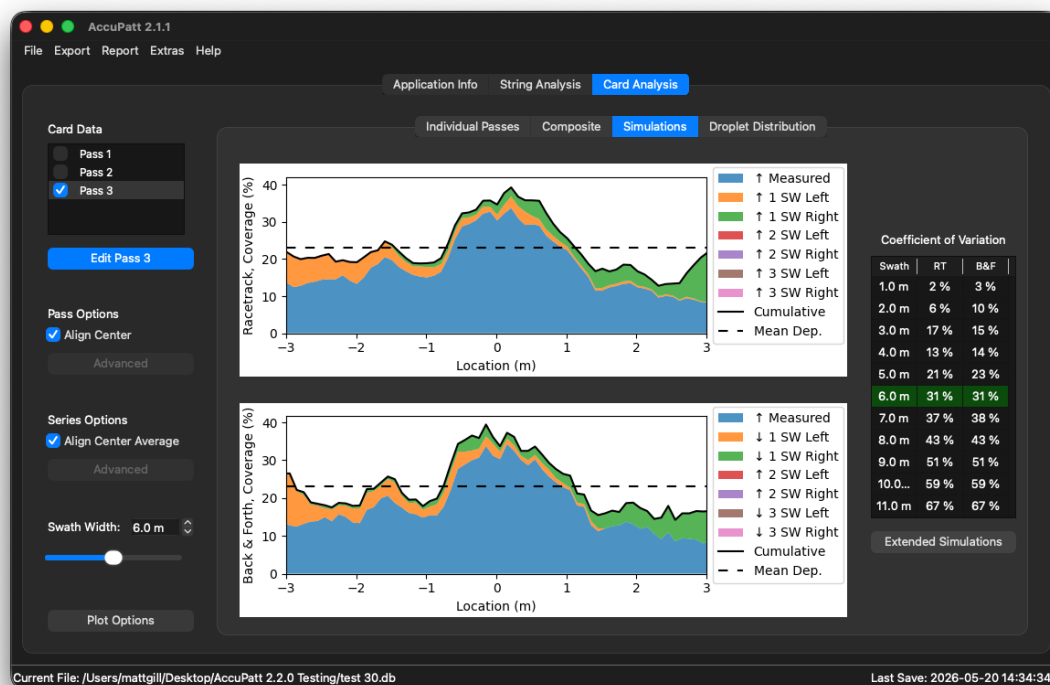

Figure 31: Spray-Card Analysis - Simulations
The **Simulations** sub-tab contains two plots (Figure 31). Both plots simulate additively overlapping the measured pattern at intervals of the adjusted swath width. The bold black line represents the resultant summed pattern, and is interpreted here as projected in-field uniformity. The dashed horizontal line represents the mean value, about which standard deviations are computed for coefficient of variation (CV) calculations. In other words, the further a data point on the bold black line is (vertically) from the dashed line, the more it contributes to the CV.